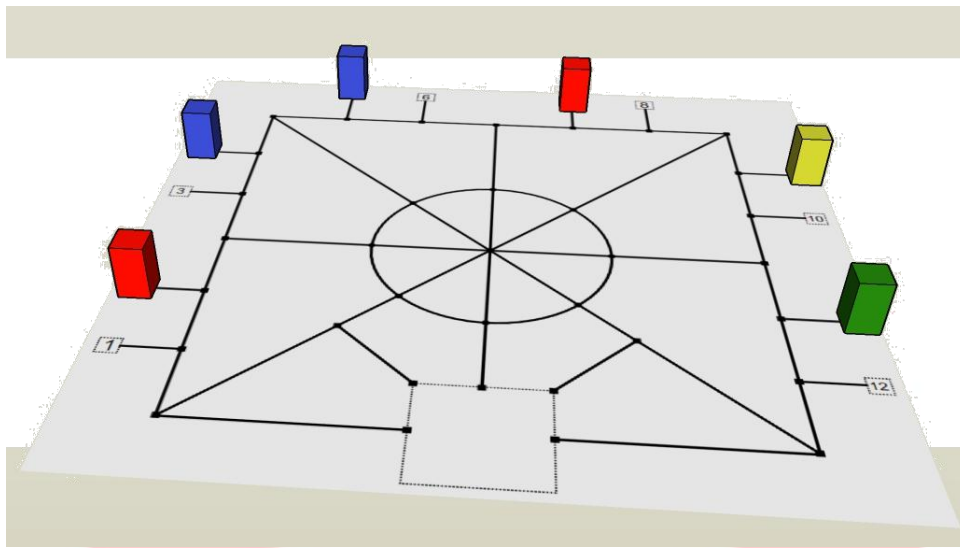

Figure 5: Example Arena with Blocks
- Final arena after placing the Blocks according to the example is shown in Figure 5.